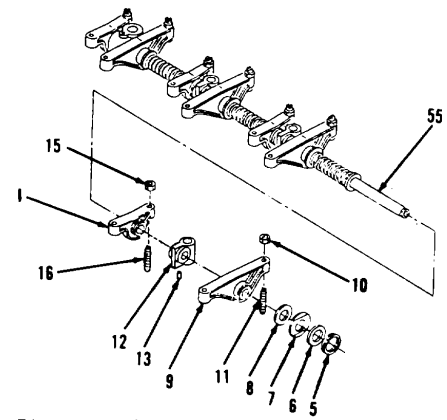

Figure 3-48.
3. Remove eight push rods (3).
4. Using magnet, remove eight lifters (4).
5. Remove ring (5), washer (6), spring (7) and washer (8, Figure 3-48).
7. Remove lock nut (10) and screw (11) from arm (9, Figure 3-48).
8. Remove bracket (12) from shaft (55).
9. Remove dowel (13) from bracket (12).
10. Remove arm (14) from shaft (55).
11. Remove lock nut (15) and screw (16) from arm (14).